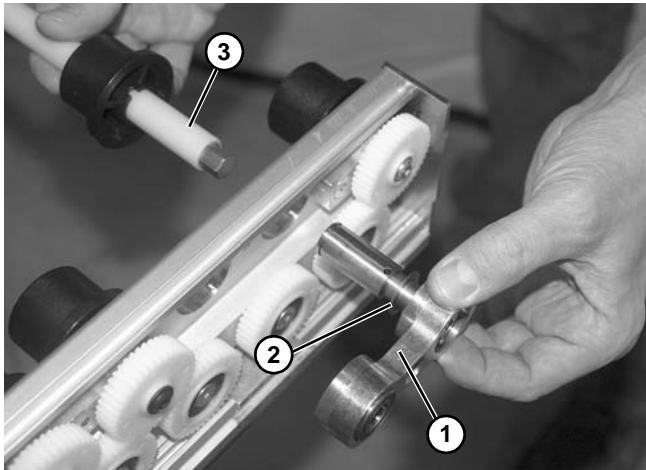

Figure 47
10. Remove the bearing assembly (Figure 47, item 1) along with washer (Figure 47, item 2) and shaft assembly (Figure 47, item 3) from the conveyor frame.